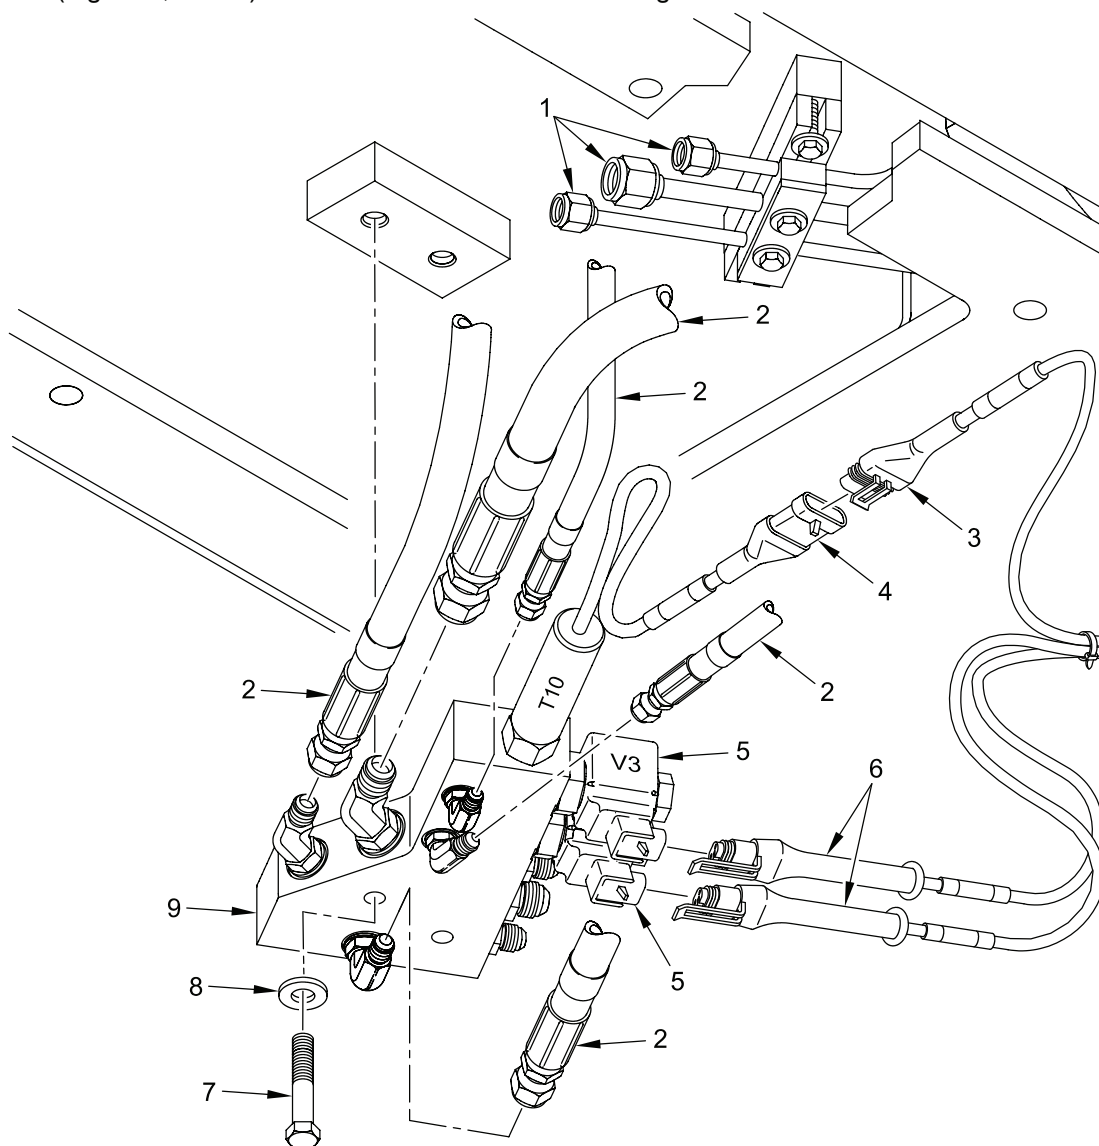

Figure 1. Removing HDC Forward Left Manifold Assembly
1. Remove wiring harness W3 connectors P3 and P9 (Figure 1, item 6) from two two-way (NO) valves V3 and V9 (Figure 1, item 5) on left forward manifold (Figure 1, item 9).
2. Remove wiring harness W3 connector P30 (Figure 1, item 3) from transducer T10 (Figure 1, item 4) on left forward manifold (Figure 1, item 9).
3. Remove five hydraulic hoses (Figure 1, item 2) and three hydraulic tubes (Figure 1, item 1) from left forward manifold (Figure 1, item 9).
4. Remove two self-locking screws (Figure 1, item 7), two flat washers (Figure 1, item 8), and left forward manifold (Figure 1, item 9) from vehicle. Discard self-locking screws.